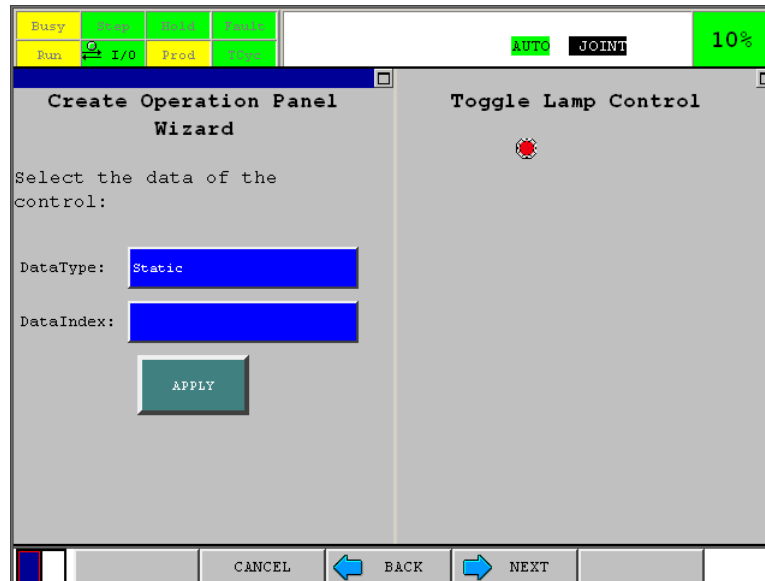

Fig. 9.41.4.4 (a) Date type setup screen
- 1 Select Fast Lamp in iPendant Control selection screen (Fig. 9.41.4.2).